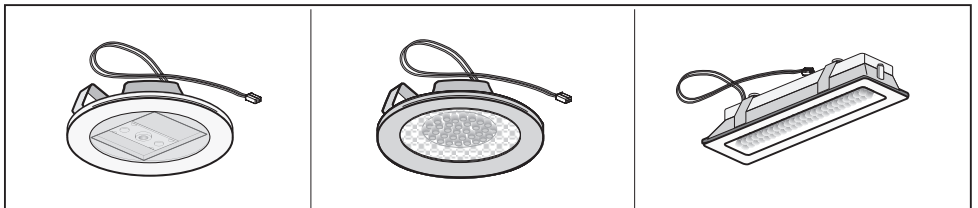

Fig.14
• **Replacing LED lamps (Fig.14):**